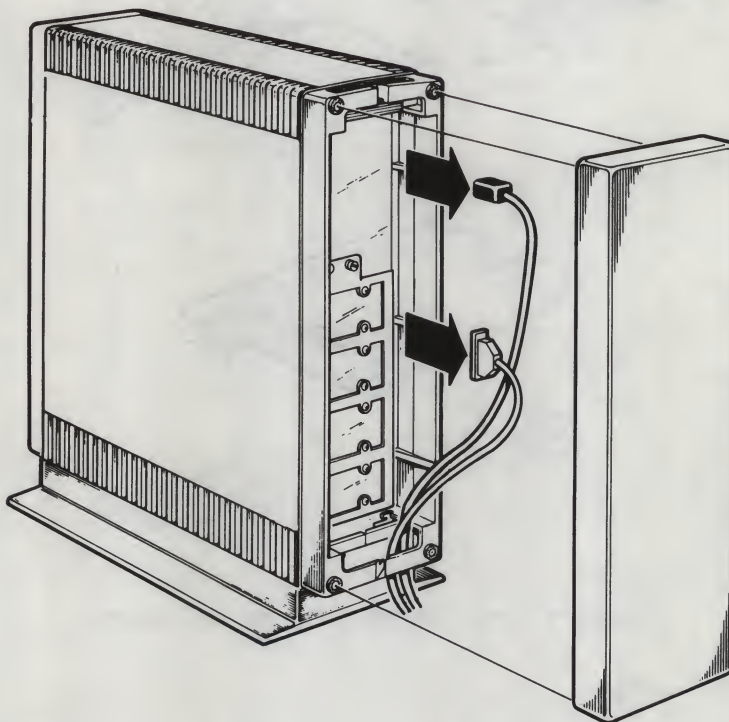

Figure 1-5 Remove the Rear Cover and All Cables
- Remove the rear cover (Figure 1-5).